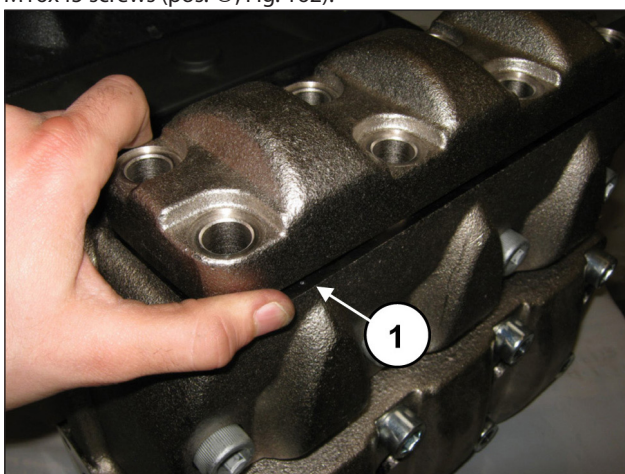
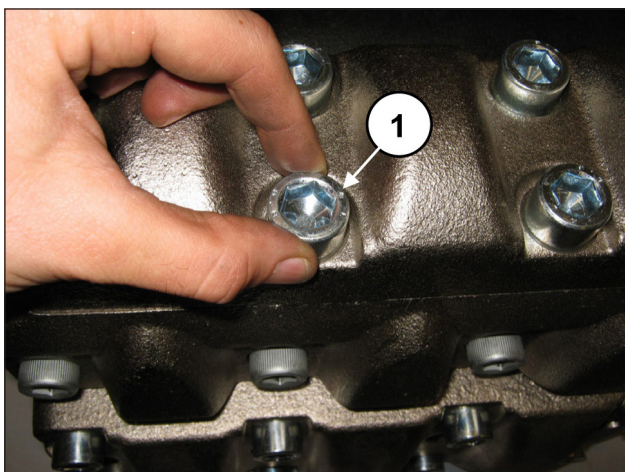

Fig. 161
Fig. 162
After having completed the assembly of the outlet valve units, fit the outlet valve cover (pos. ①, Fig. 161) and screw in the 8 M16x45 screws (pos. ①, Fig. 162).